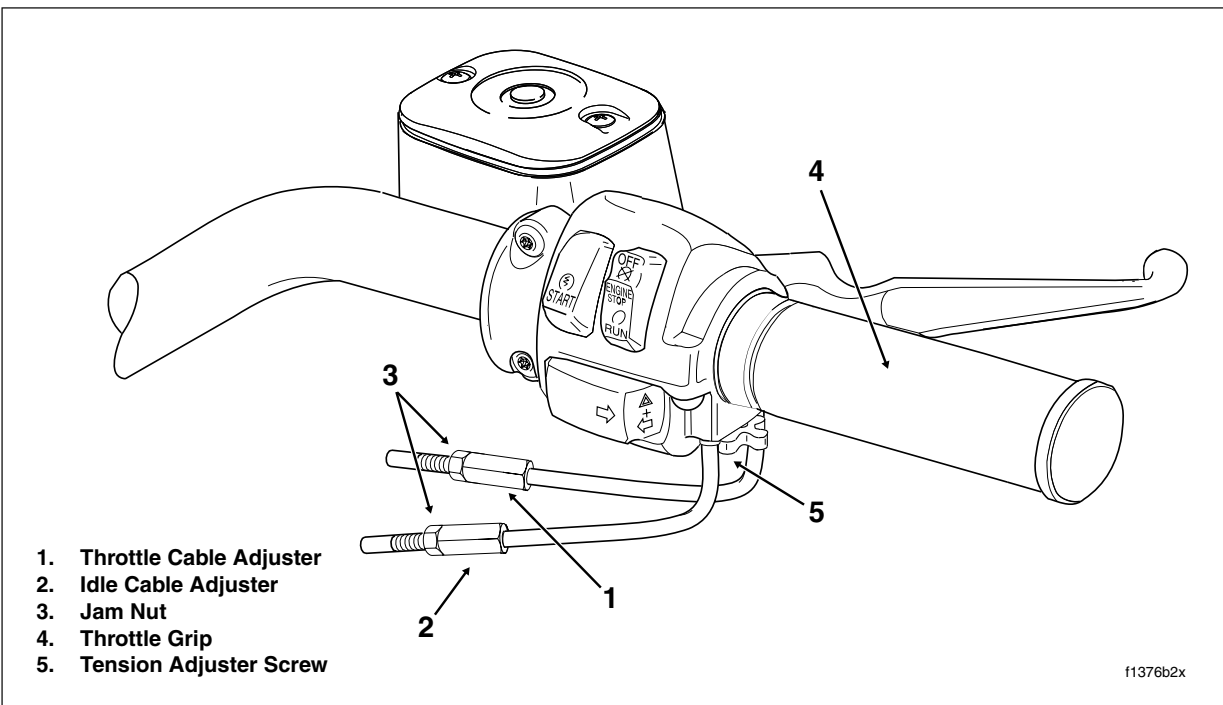

Figure 1-20. Throttle Cable Assembly - Throttle Side (FLHR/S)
1. Slide rubber boot off throttle cable adjuster mechanism. See Figure 1-20. Holding cable adjuster with a 3/8 inch wrench, loosen jam nut turning in a clockwise direction. Back jam nut away from cable adjuster until it stops. Turn cable adjuster clockwise until it contacts jam nut. Repeat procedure on idle cable adjuster.